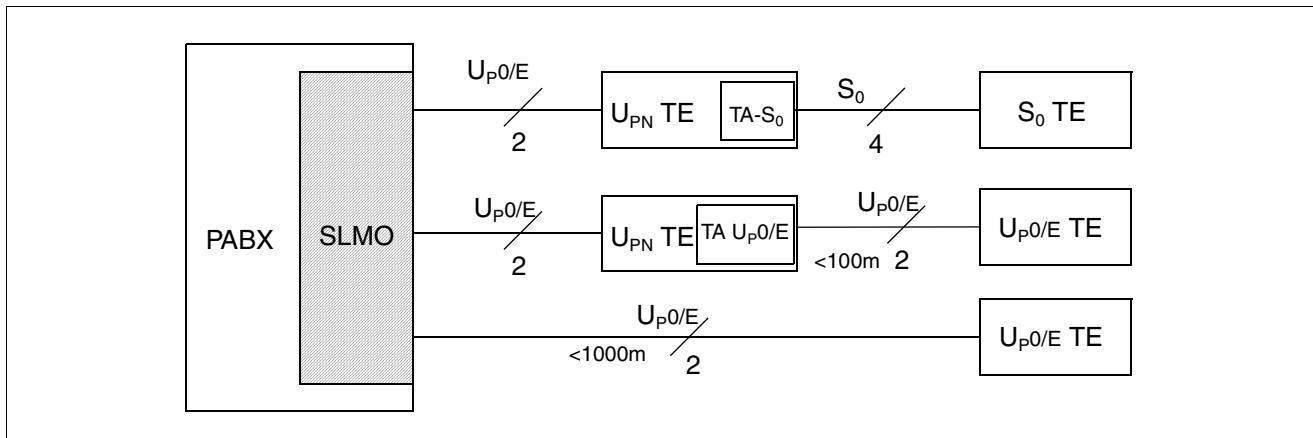

Figure 3-76 Example of possible SLMO telephone connections
Figure 3-76 illustrates the direct connection of telephones to the SLMO by means of the U_{P0}/E interfaces, as well as by means of an integrated network terminal (NT).